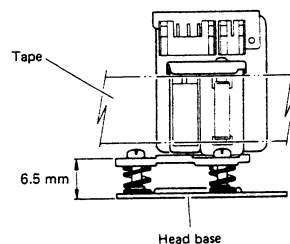

Fig. 2-6 A/C head height
- 2) Before installing the A/C head on the main-deck, perform rough-adjustment of A/C head height as shown in Fig. 2-6.